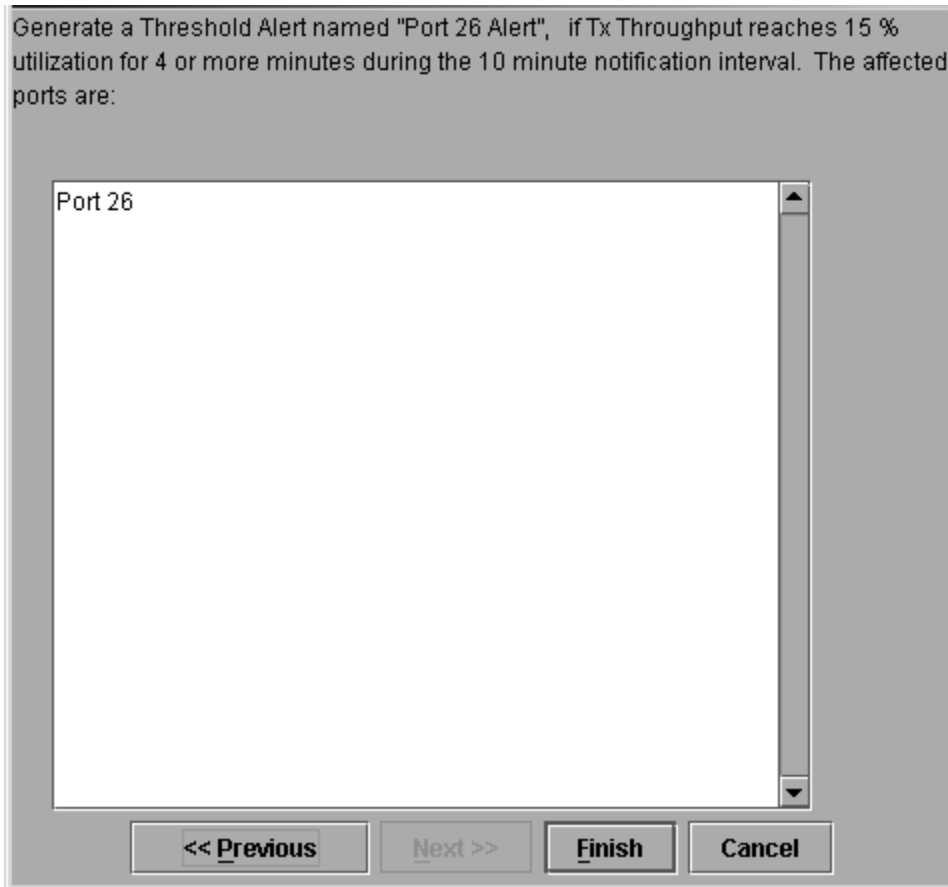

Figure 2–23: New Threshold Alerts dialog box—summary screen
13. At this point, the alert is not active. To activate the alert, choose the alert information that displays in the **Configure Threshold Alerts** table and click **Activate**. The alert is activated as shown in Figure 2–24.